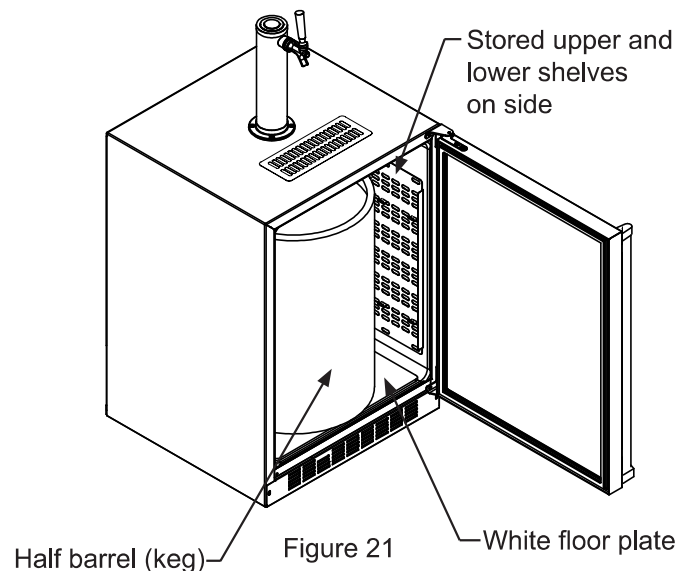

Figure 21
If you are using a half barrel (keg) or (2) 1/6 barrels, place the two shelves on the right side of the keg dispenser on the two mounting hooks for storage. (See Figure 21). Be sure the white floor plate is in the bottom of the interior compartment before positioning the barrel(s).